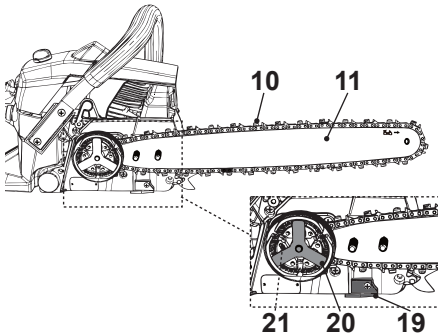

Fig. 4
5. Place the saw chain (10) over the drive sprocket (21) (behind the clutch (20)) and fit around the guide bar (11). Make sure the saw chain (10) is placed above the chain catcher (19) (Fig. 4).